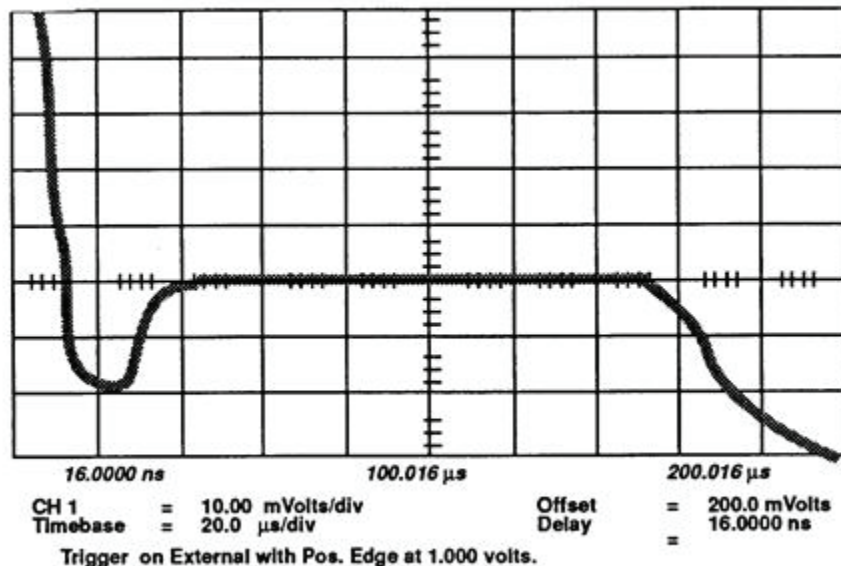

Figure 22. Feedthrough not compensated.
d. The signal on the display should resemble figure 22.